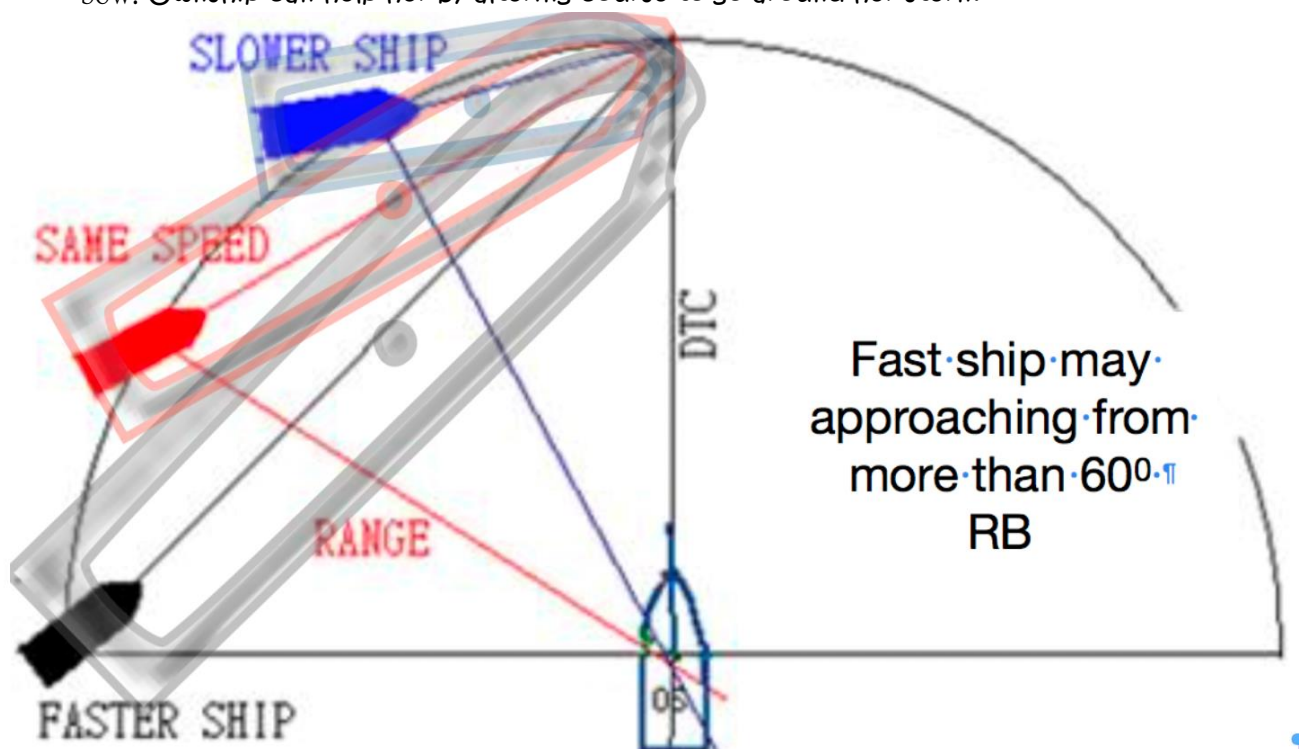

Figure 6-16: Best aide to collision avoidance is decided by Target's relative bearing
- ⇒ Case 1: Target's relative bearing of stern unchanged or increased a little (due to horizontal angle augmentation). Both vessels arrive collision position at same time. Best aide to collision avoidance is decided by Target's relative bearing (or approaching bearing or target's speed) which will be explained in figure 6-16. **For fast speed vessel relative bearing near ownship's beam position is to stop our speed. For slower vessel relative bearing near ownship's bow is to alter ownship's course.**
When ownship has no visual contact with target vessel at fog (restricted visibility) our avoidance actions are decided by Target's relative bearing. We have three cases as figure 6-16: